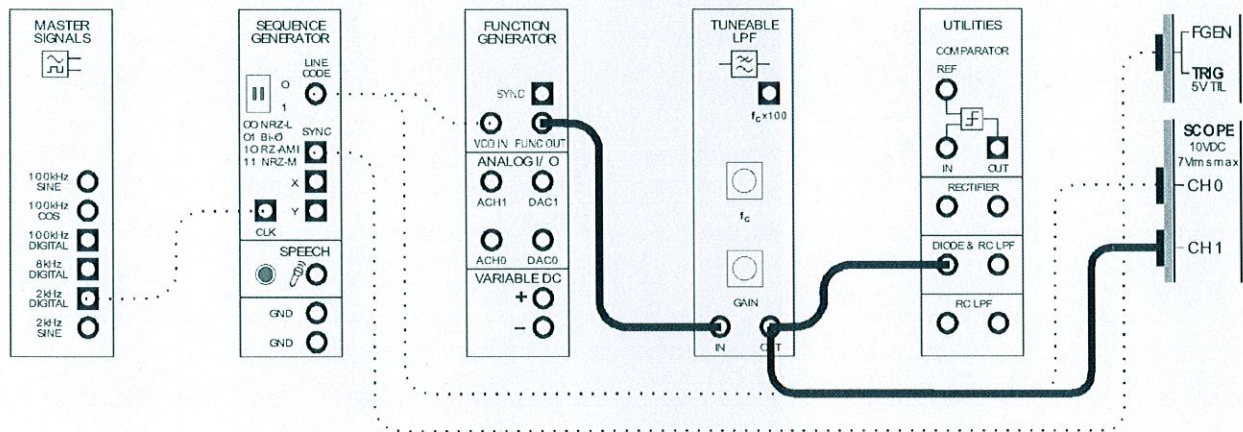

Figure 4
19. Modify the set-up as shown in Figure 4 below.